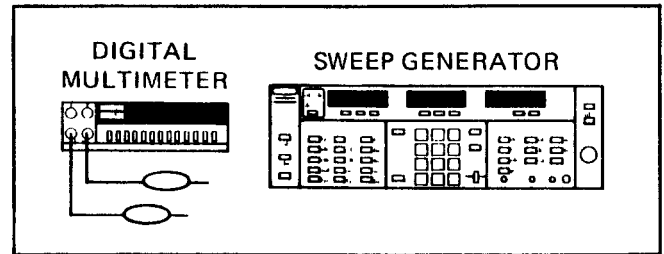

Figure 5-22. Test Equipment Setup for A8 YIG Driver Adjustments
1. Set up test equipment as shown in Figure 5-22, and turn the equipment on.
1. Set up the test equipment as shown in Figure 5-22, and turn the equipment on.